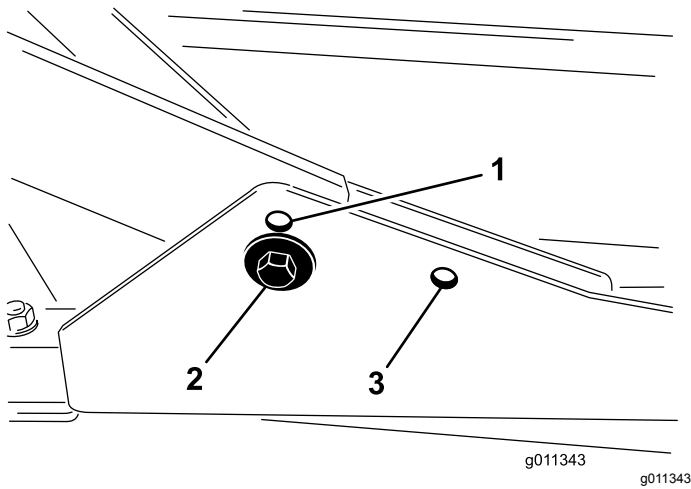

Figure 7
- For heights of cut between 2.0 to 7.6 cm (0.75 to 3 inches), mount the front carrier frames in the lower front mounting holes (Figure 7).
- For heights of cut between 6.3 to 10 cm (2.5 to 4 inches), mount the front carrier frames in the upper front mounting holes (Figure 7).
For all heights of cut, mount the rear cutting unit in the rear-mounting holes (Figure 7).